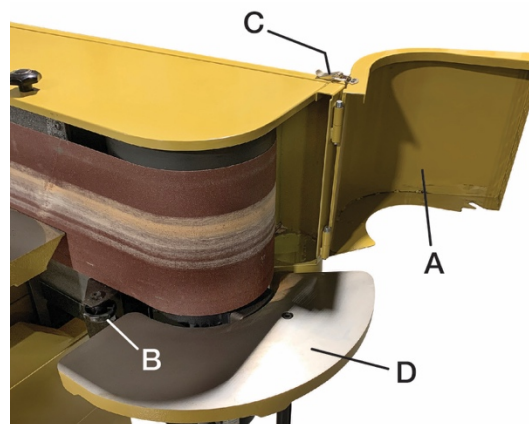

Figure 9-9
Refer to Figure 9-9.
2. Swing the end guard (A, Figure 9-9) out of the way (see Section 9.5). Open the belt guard (B).
3. Release tension on the belt by pulling the tension lever (C) all the way up until it stops against the screw head.